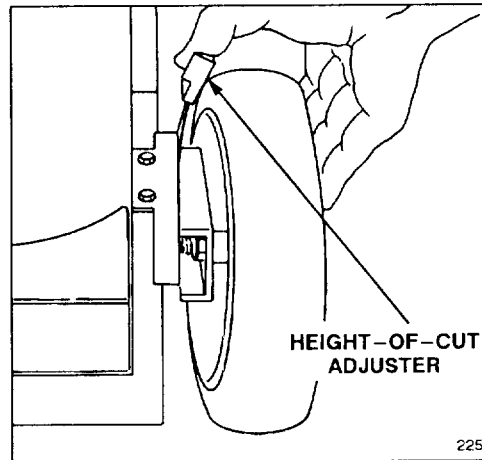

Figure 7
2. For easier adjustment, lift housing up so wheel is off ground. **Do not place hands under deck to lift housing.** Squeeze adjusting lever toward wheel (Fig. 7) and move it to the desired setting. Ensure pin on adjusting lever engages notch in mower housing wear plate. Adjust all wheels to the same setting.